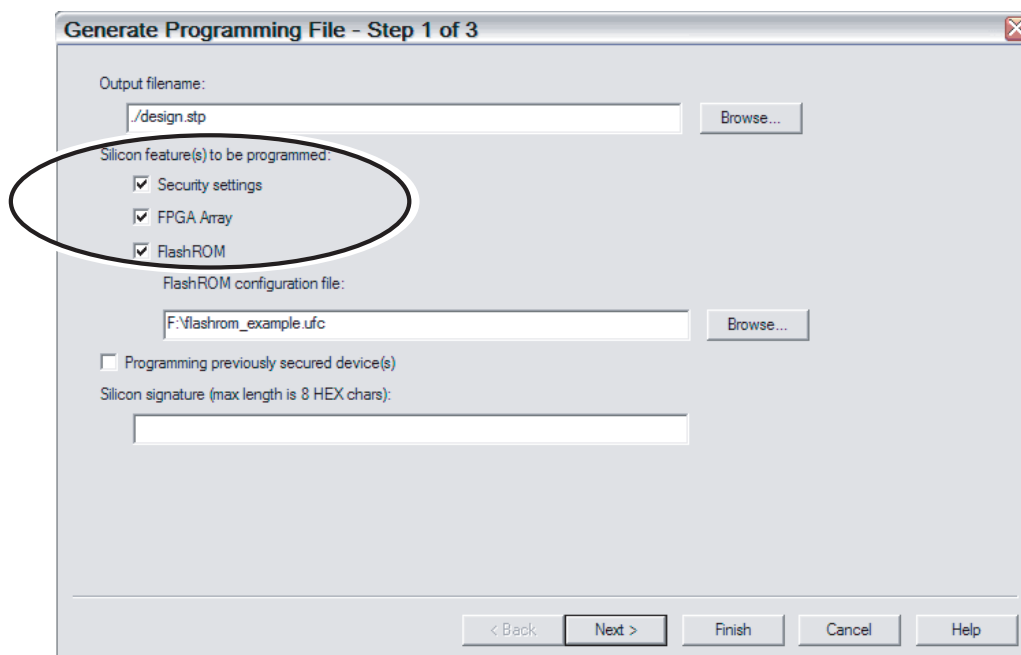
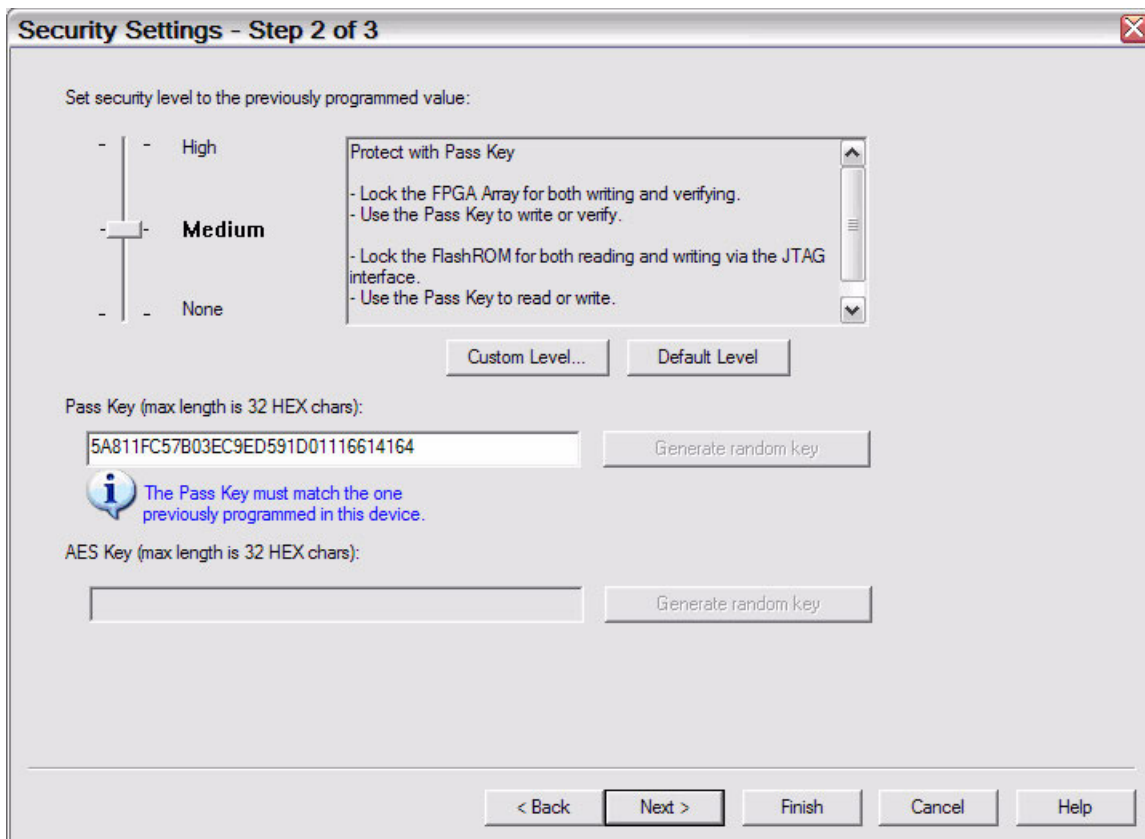

Figure 7 • All Silicon Features Checked
Figure 12 • FlashLock Pass Key
1. Check the Silicon features to be programmed (**Security Settings, FPGA Array, FlashROM**), as shown in Figure 7. Click **Next**.
Figure 7 on page 9 shows the option **Programming previously secured device(s)**, which the user should check before proceeding. Upon going to the next step, the user will be notified that the same FlashLock Pass Key needs to be entered, as shown in Figure 12.
It is important to note that when the security settings need to be updated, the user also needs to check the **Security Settings** checkbox in Figure 7 on page 9 to modify the security settings. The user must consider the following: